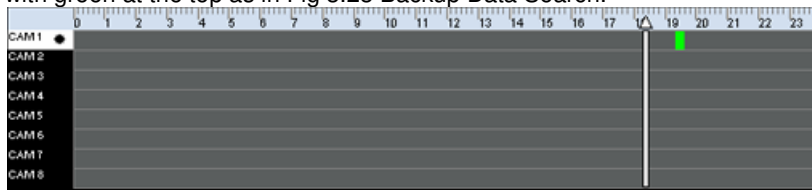

Fig 3.23 Backup Data Search
STEP3 Set the date and channels. It will show the recorded video in area③ with green at the top as in Fig 3.23 Backup Data Search.